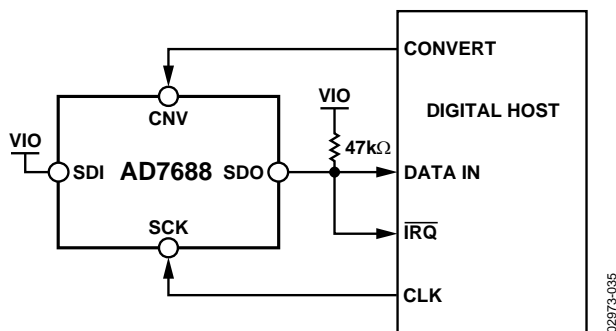
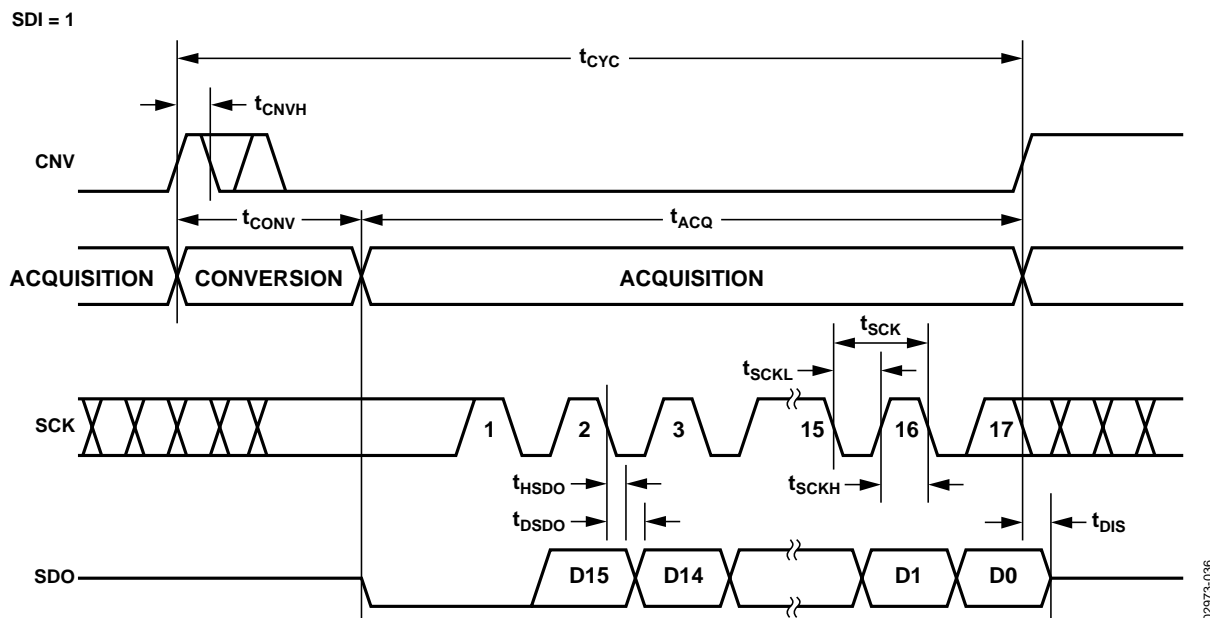
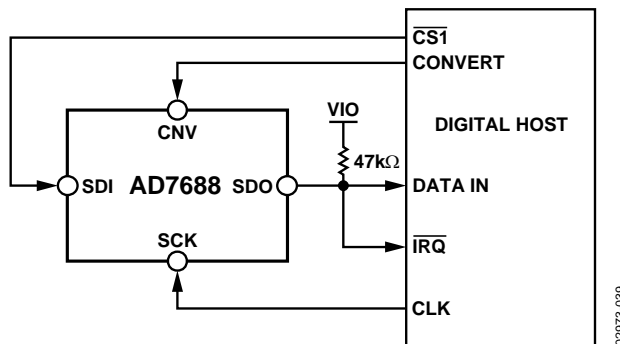
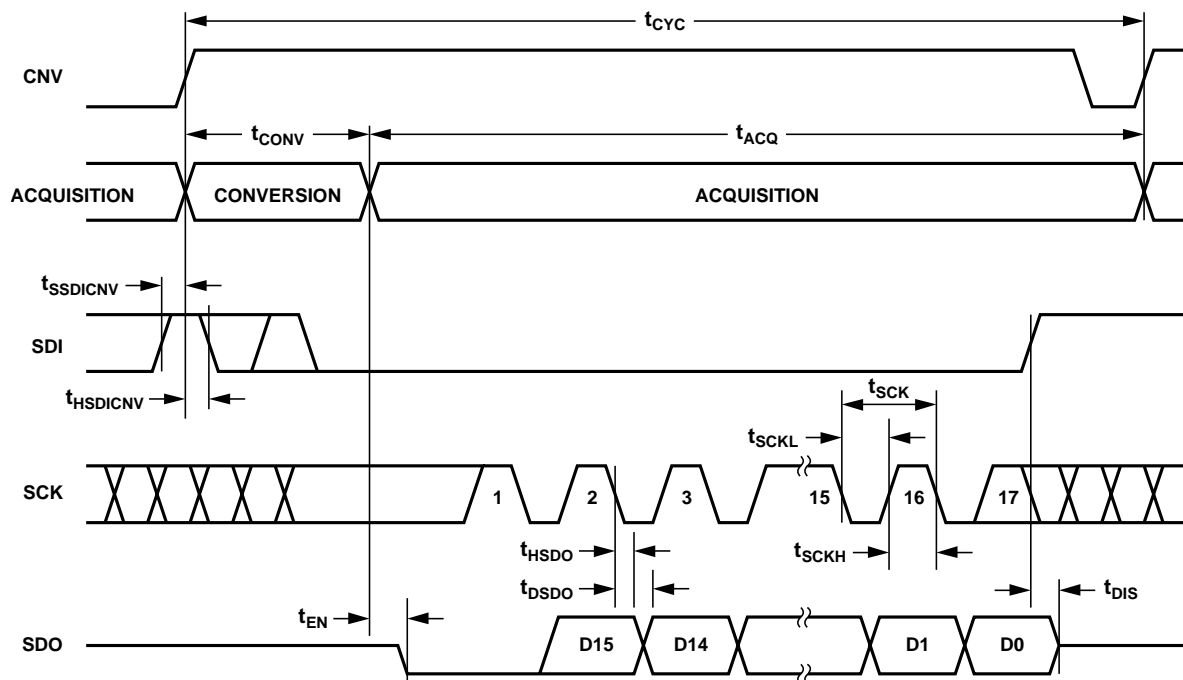

Figure 36.  $\overline{\text{CS}}$  Mode 3-Wire with BUSY Indicator Connection Diagram (SDI High)
Figure 37.  $\overline{\text{CS}}$  Mode 3-Wire with BUSY Indicator Serial Interface Timing (SDI High)
Figure 40.  $\overline{\text{CS}}$  Mode 4-Wire with BUSY Indicator Connection Diagram
Figure 41.  $\overline{\text{CS}}$  Mode 4-Wire with BUSY Indicator Serial Interface Timing
- In the  $\overline{CS}$  mode, if CNV or SDI is low when the ADC conversion ends (Figure 37 and Figure 41).
The connection diagram is shown in Figure 36 and the corresponding timing is given in Figure 37.
The connection diagram is shown in Figure 40 and the corresponding timing is given in Figure 41.